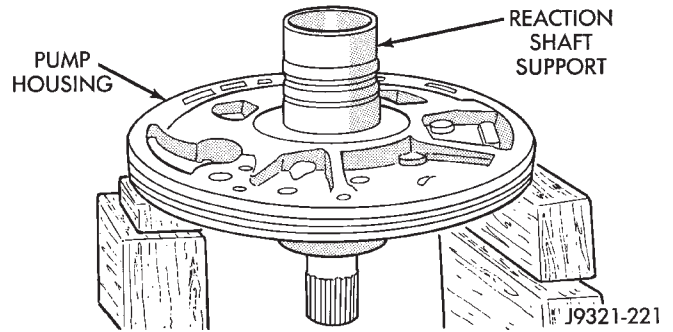

Fig. 132 Assembling Reaction Shaft Support And Pump Housing
(8) Install reaction shaft support on pump housing (Fig. 132).
(9) Align reaction support on pump housing. Use alignment marks made at disassembly. Or, rotate support until bolt holes in support and pump housing are all aligned (holes are offset for one-way fit).